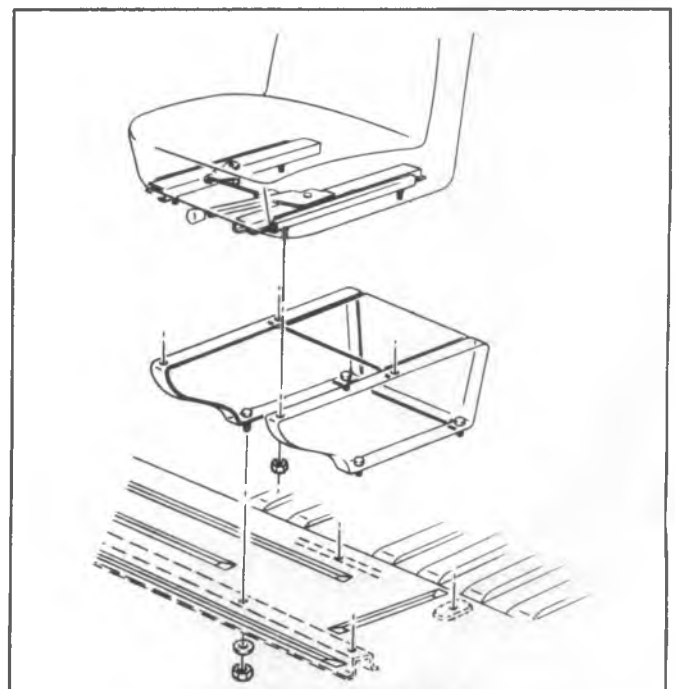

Fig. 2D-134--Driver's Seat
1. Remove seat and brackets from seat riser. See figure 2D-135.